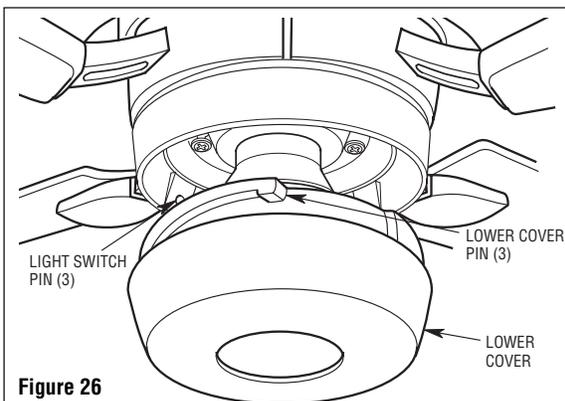

Figure 26
2. Place the lower cover into the opening in the light kit plate assembly. Place the three pins on the light kit plate assembly into the three mounting holes located on the underside of the lower cover. Turn the lower cover clockwise until it stops and locks into place (Figure 26).